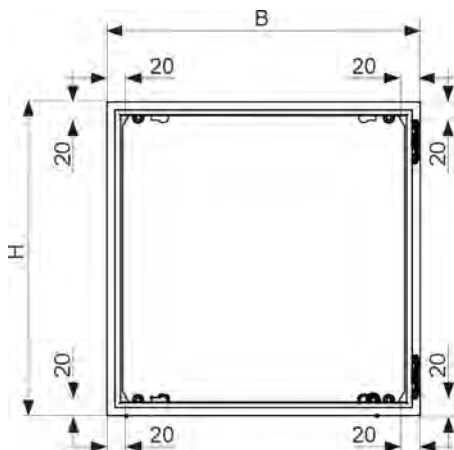

Fig. 6: Wall mounting: DryExx® Basic
**i** When installing on a mounting frame, attach the welding bolts supplied with the equipment to the intended surface as specified in Fig. 6 .
1. ▶ Prepare the mounting equipment as specified in Fig. 6 .